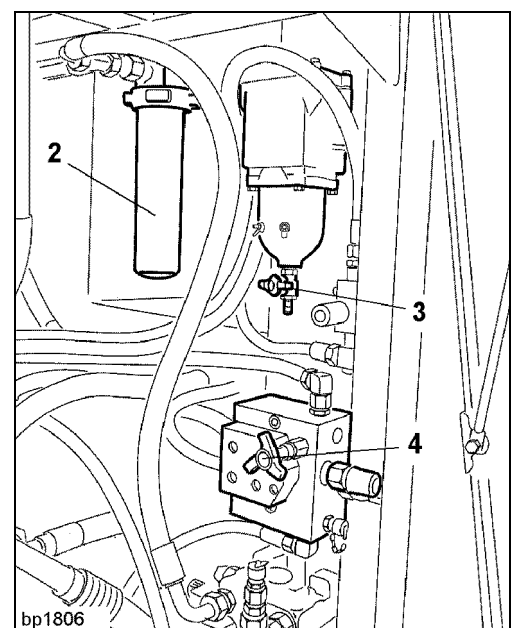

Fig. 6; maintenance flap on the right in the direction of travel.
- Reduce the stroke rate of the concrete pump as far as possible using the pressure reducing valve (4) (Fig. 6).